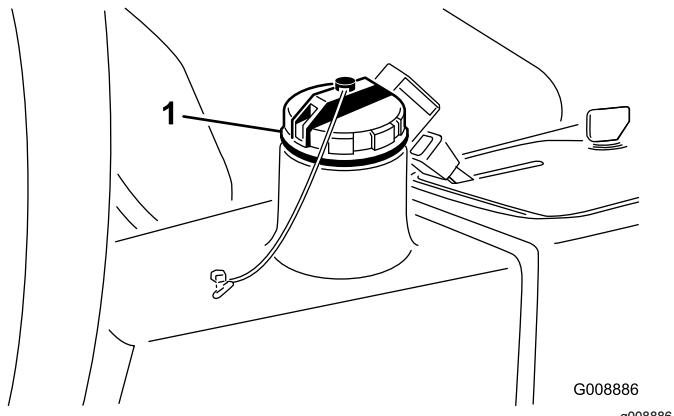

Figure 81
4. Fill the reservoir (Figure 81) with approximately 13.2 L (3.5 US gallons) of hydraulic fluid; refer to Checking the Hydraulic System \(page 25\).